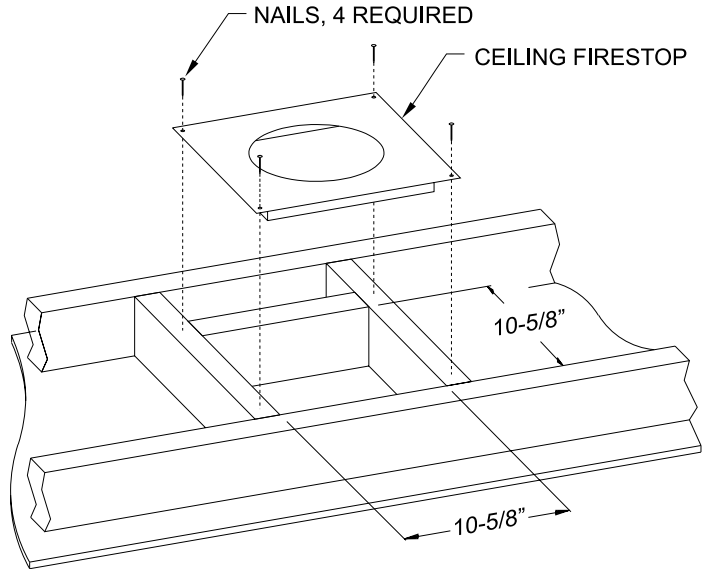

Figure 49
**See Figure 48.** If the area above the ceiling is an attic, position and secure the firestop on top of the previously framed hole. **See Figure 49.**